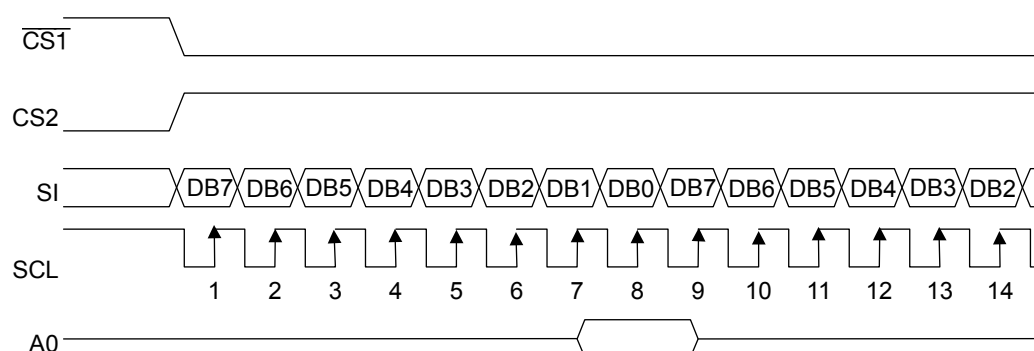

Fig. 1 Signal chart during serial interface
When the serial interface is selected ($\overline{P/\overline{S}} = "L"$), the serial data input (SI) and the serial clock input (SCL) can be accepted if the chip is in the active state ($\overline{CS1} = "L"$ and $CS2 = "H"$). The serial interface consists of an 8-bit shift register and a 3-bit counter. The serial data is read in from the serial data input pin in the sequence DB7, DB6, ..., DB0 at the rising edge of the serial clock input, and is converted into parallel data at the rising edge of the 8th serial clock pulse and processed further. The identification of whether the serial data is display data or command is judged based on the A0 input, and the data is treated as display data when A0 is "H" and as command when A0 is "L". The A0 input is read in and identified at the rising edge of the $(8 \times n)$ th serial clock pulse after the chip has become active. Fig. 1 shows the signal chart of the serial interface. (When the chip is not active, the shift register and the counter are reset to their initial states. No data read out is possible in the case of the serial interface. It is necessary to take sufficient care about wiring termination reflection and external noise in the case of the SCL signal. We recommend verification of operation in an actual unit.)